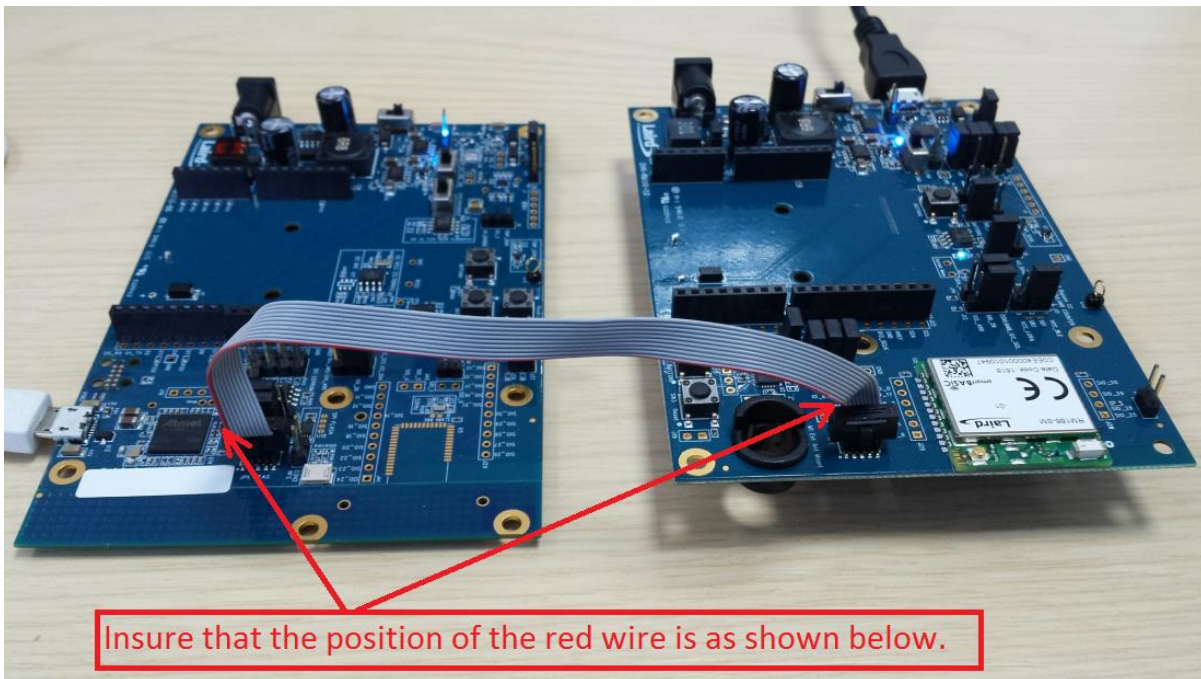

Figure 4: Connecting the programmer board to an RM186 development board
2. Using the supplied ribbon cable, connect the QPK-NRF5X (the programmer board) to the DVK-RM186 development board as shown in Figure 4.